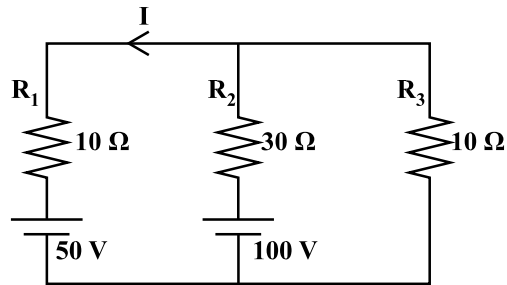

Figure 3. DC network with two voltage sources
5. (a) Figure 3 shows a DC network with two voltage sources.
- (ii) Use the superposition theorem to determine the current I in the circuit in Figure 3.